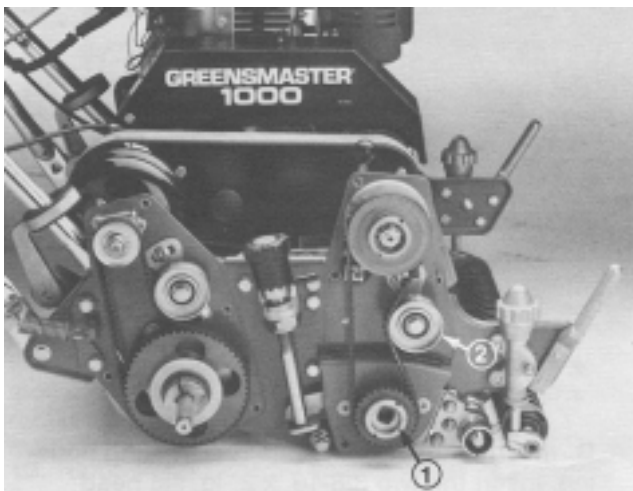

Figure 13
20. Using a 1/2" drive ratchet and extension, reinstall drive pulley and belt to reel shaft (Fig. 13). Secure the reel from turning with a wood block. Tighten pulley to 40 to 60 ft–lbs of torque. Pivot the idler pulley against the backside of the belt and apply 20 to 25 lbs of force to the idler pulley. Tighten idler pulley mounting screws. **DO NOT OVERTIGHTEN BELT.**
3. Remove the right side grooming reel housing bearing bracket by unfastening the three bolts and nuts (Fig. 13). Remove the grooming reel shaft.